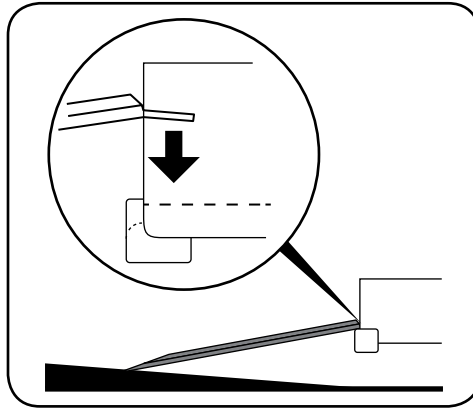

Figure 4-7
4. Place the ramp fingers or plate edges on the edge of the trailer or truck bed. See Figure 4-7.